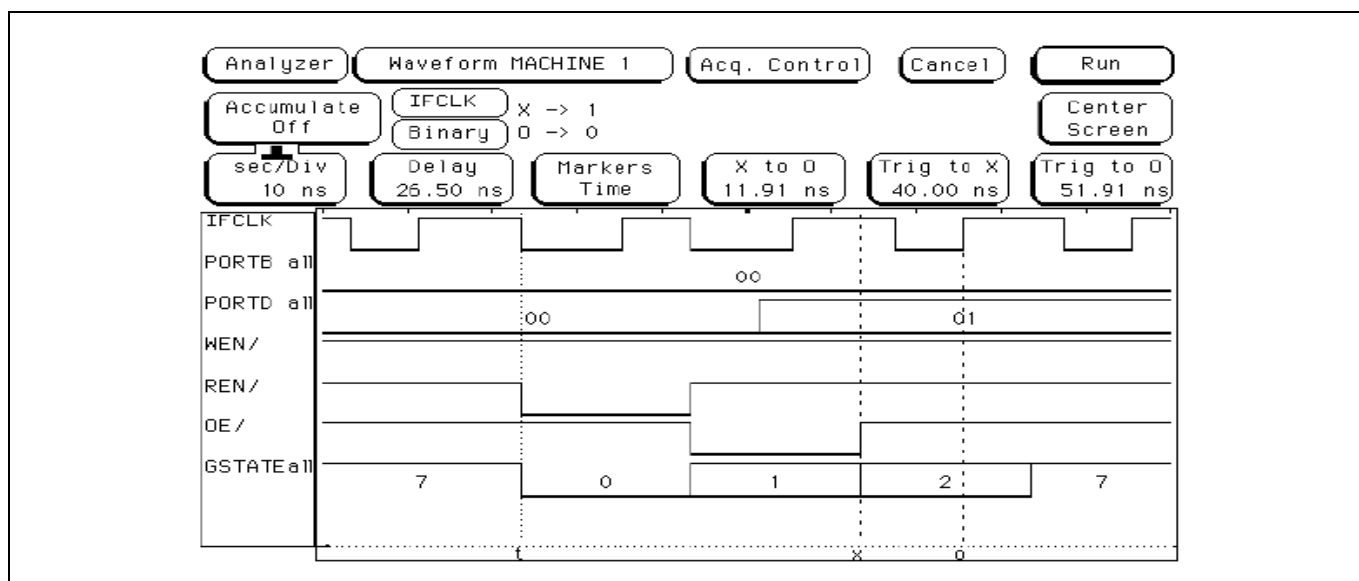

Figure 56 Single-Word Read Waveforms
Figure 56 shows the timing generated by the GPIF engine for the single-word read waveforms as defined by GPIF Designer. All the signals are presented here, including GSTATE [2:0], which displays the states the GPIF engine cycles through as it performs the single-word read transaction.
- A sampling rate of 4 ns will give you the same resolution shown in the waveform in Figure 56.